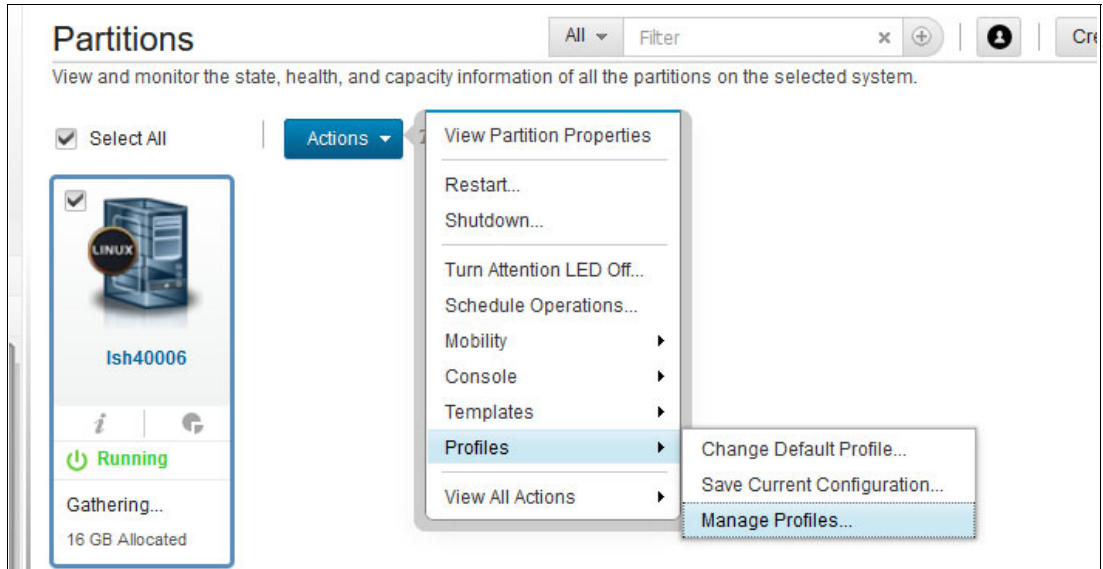

Figure 2-10 Selecting the virtual I/O client partition for the virtual Fibre Channel
- a. Select the virtual I/O client partition on which the virtual FC client adapter will be configured. Change the partition profile by selecting **Profiles** → **Manage Profiles**, as shown in Figure 2-10.